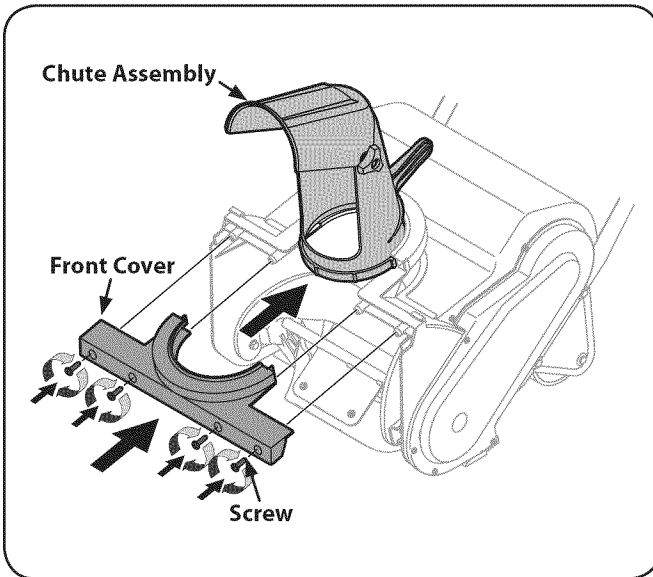

Figure 3-9
6. Re-install the front cover with the four screws removed in step 1. See Fig. 3-9.